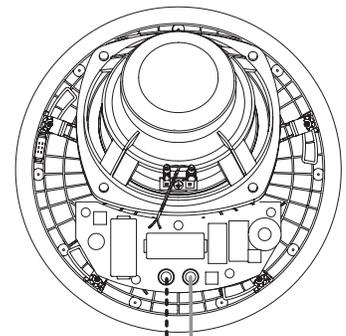

Figure 3
- Hold the speaker up to the cutout and connect the speaker cable. Proper polarity (or phase) is critical for proper stereo imaging and bass performance. Connect the red(+) terminal of your receiver or amplifier to the red(+) terminal of the Invisa loudspeaker and the black(-) terminal of your receiver or amplifier to the black(-) terminal of the Invisa loudspeaker (See Figure 3). Most speaker cables are either color coded or have some indicator (ribbing or writing) on one of the conductors to help maintain this consistent polarity. It is essential that all speakers be connected in the same way (in phase) to its own channel of the amplifier. If you experience a great lack of bass, it is likely that one speaker is out of phase(+ and - reversed) with the other.